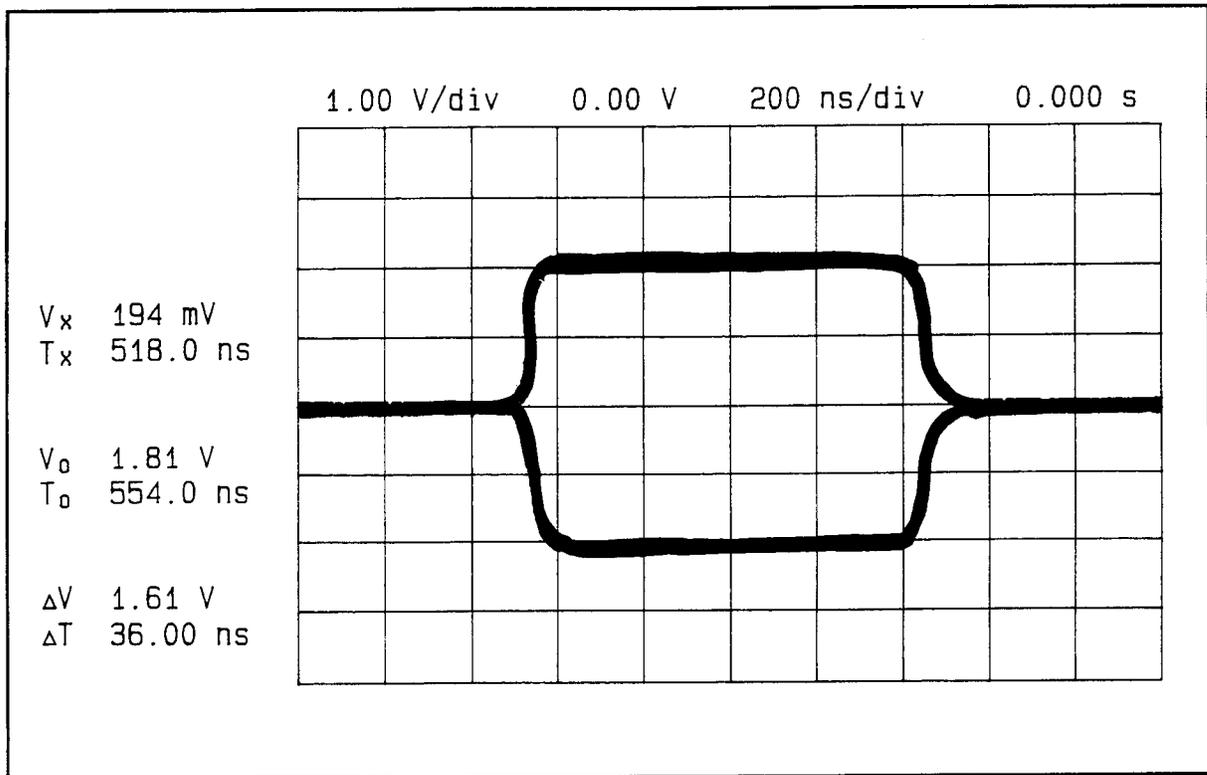

Figure 3-14. Pulse Modulation Envelope Waveform
5. Set the equipment as indicated in the following table. For each step, observe the 10% to 90% risetime and falltime of the RF burst relative to its steady-state value. (Refer to figure 3-14 for details.) The risetime and falltime should be within the limits shown in the table.
Figure 3-14 shows the RF burst envelope as displayed on a digitizing oscilloscope. The X and O markers are at the approximate 10 and 90% points on the envelope. The reading for ΔT is the approximate risetime.